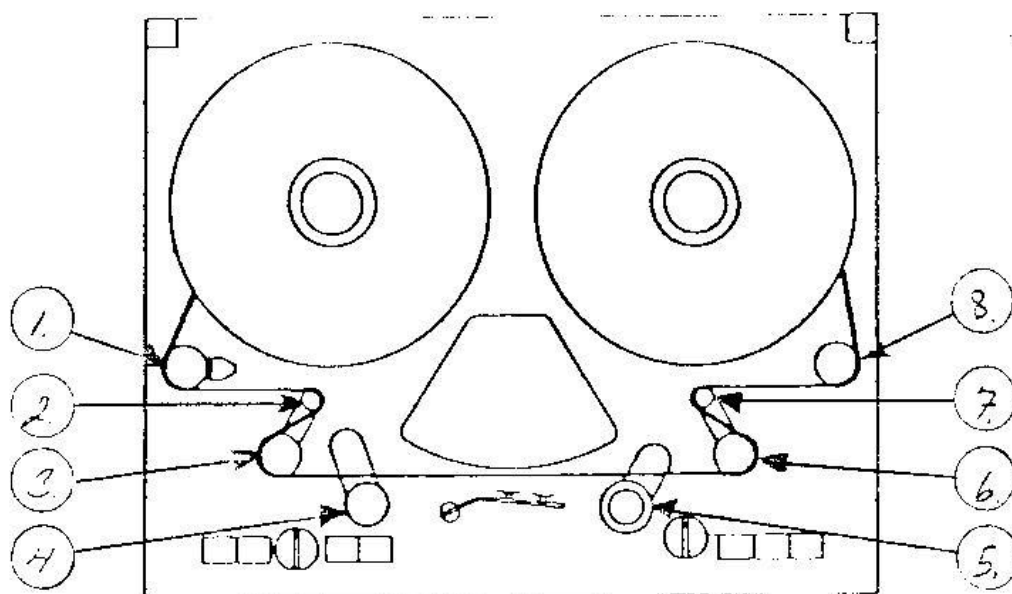
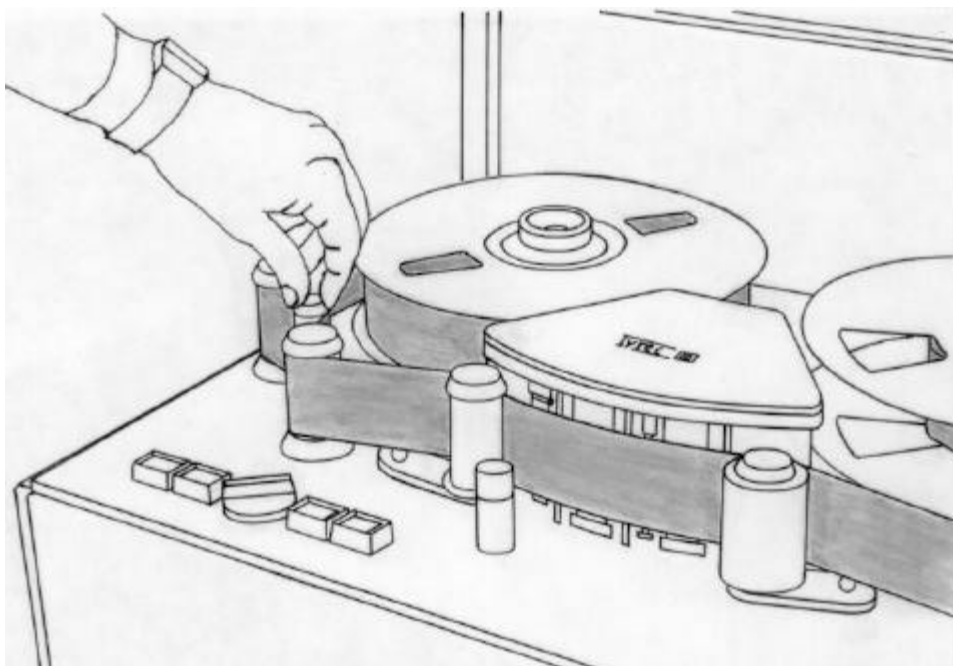

Fig. 1
Fig. 4
The table below shows the significance of different rollers in different modes. The roller numbers refer to fig 1.
With tape running at 15 ips, simulate minimum supply tape tension. This is obtained by manually forcing the left servoarm (fig. 1, item 2) to its utmost left position, see fig. 4.